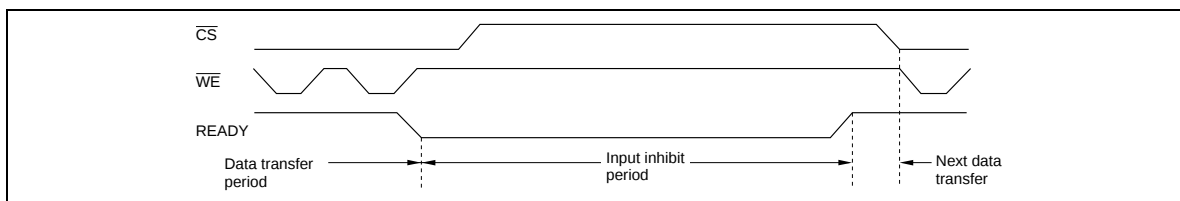

Figure 12 $\overline{READY}$ Output Timing (When It Is Always Available)
- a. READY is mode always available (Figure 12).